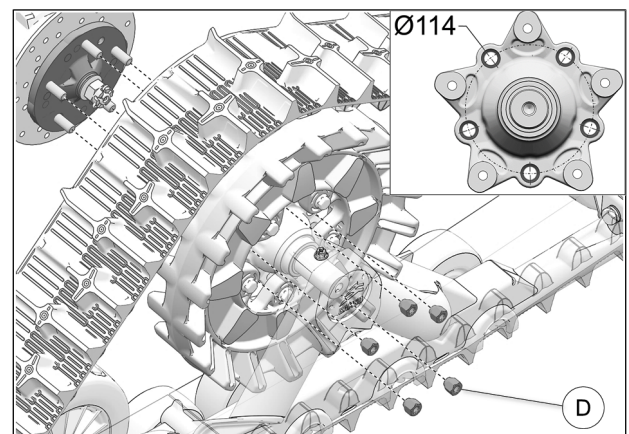

Fig. 9
10. Secure undercarriage to rear hub using the provided M12 lug nuts (D). See Fig. 9